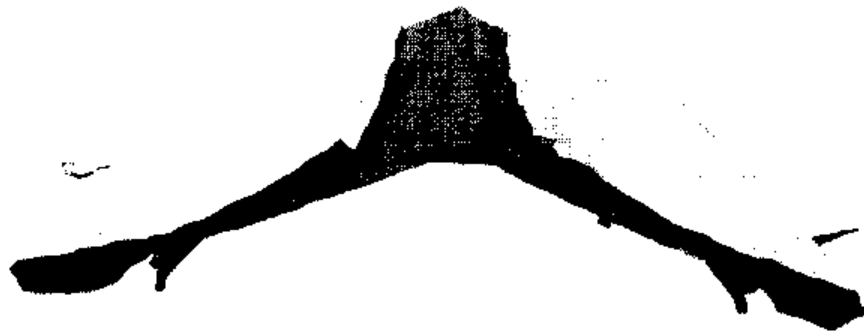

Fig 12 Roof frame with insulation panel unsecured
- 13.2 Lay the roof insulation panel, over the roof with white side facing inwards and fold the sides up onto the roof Fig 12. Loosely attach to the framework by the use of the tensioners, ensuring the ridge of the roof panel is aligned centrally.